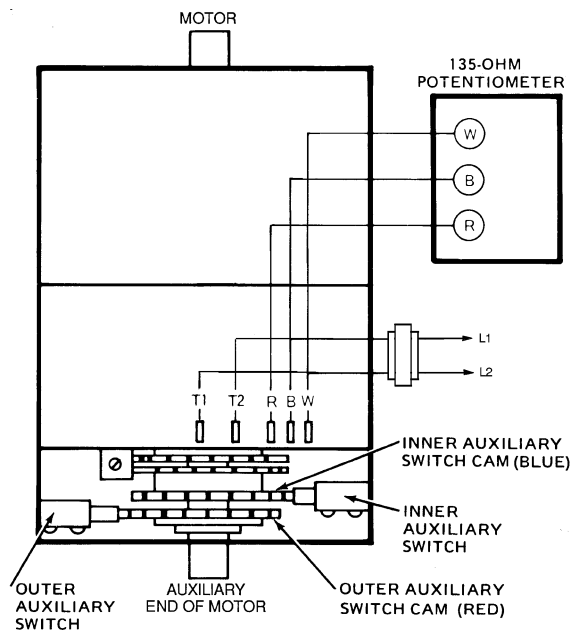

Fig. 127 — Auxiliary Switch Stroke Adjustment
2. Disconnect controller from motor. Connect RED, WHITE, and BLUE terminals on the 135-ohm manual potentiometer to corresponding RED, WHITE, and BLUE terminals on the motor. Connect 24-vac power to Terminals 1 and 2. See Fig. 127.